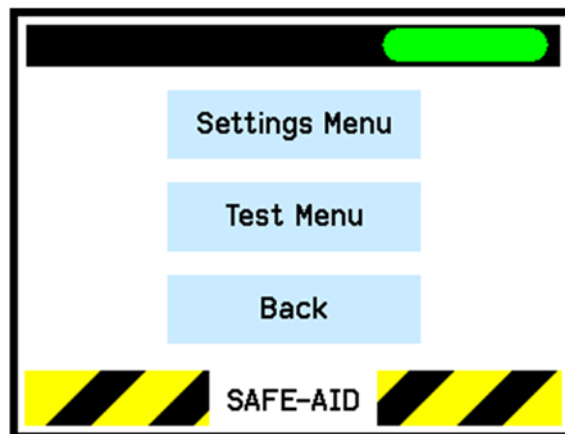

Figure 11
- The **Settings & Test Menu** screen will now be displayed (**Figure 11**).